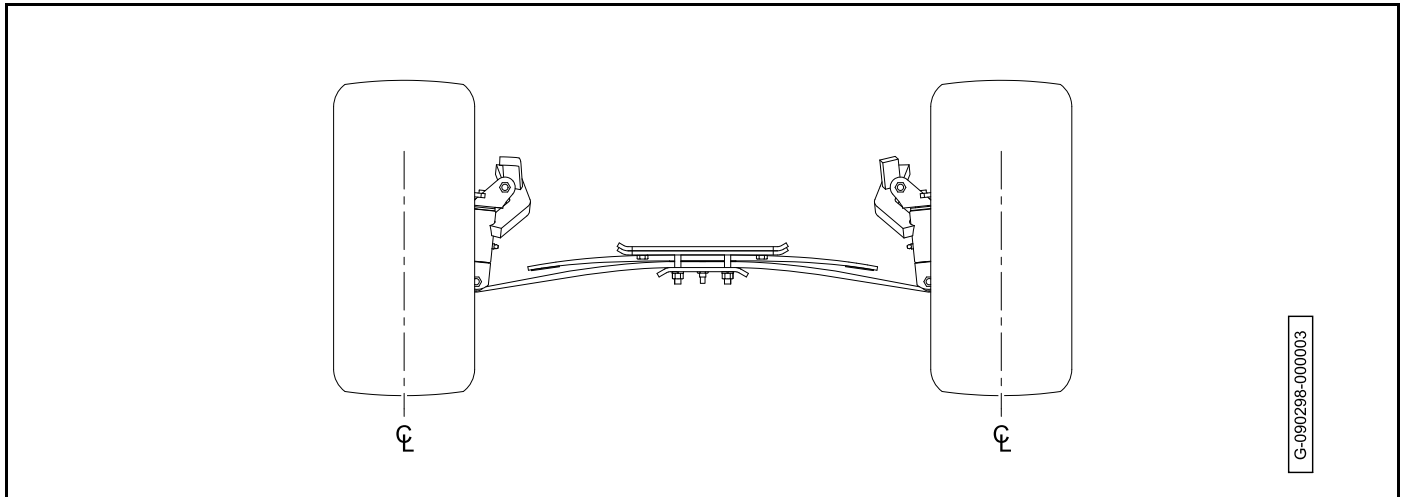

Figure 7-11
7. Measure the distance between the marks on the forward-facing surfaces of the tires (**Figure 7-11**).